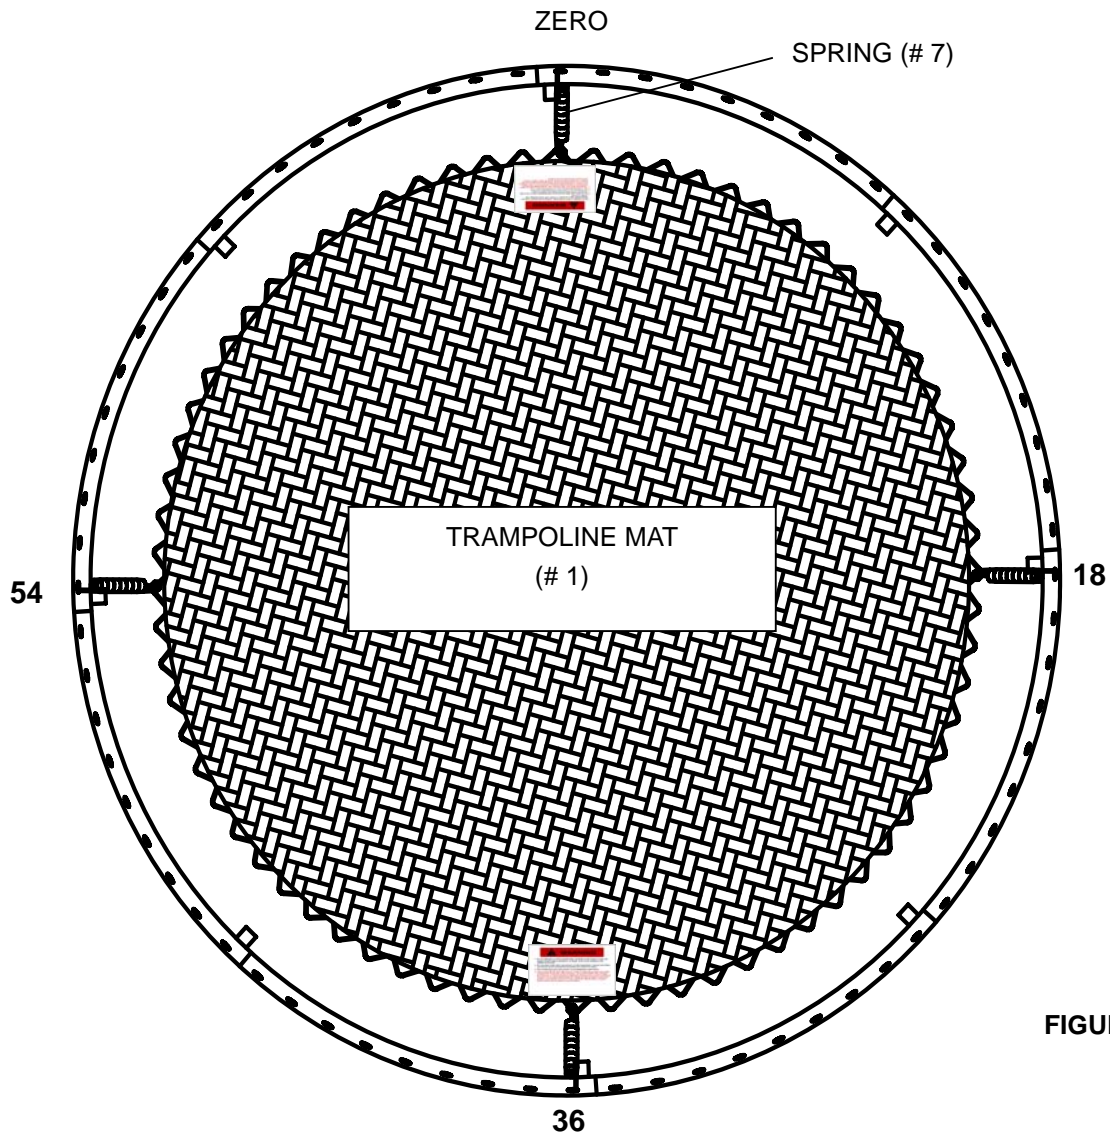

FIGURE 7
C. Next, starting from point Zero, count to hole 36 on the opposite end of the mat and attach a Spring in the same manner. For even distribution of tension and ease of assembly, springs should always be installed on opposite sides of the mat/frame in an alternating manner, i.e. Zero, then 48, followed by 18 and 54 as shown in FIGURE 7.